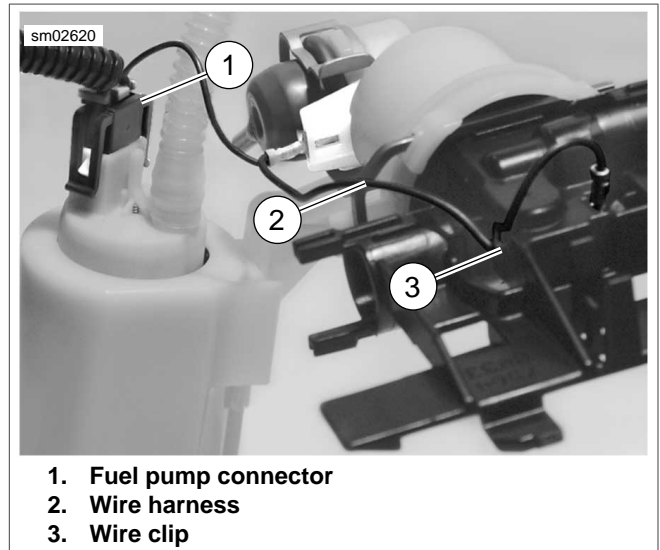

Figure 4-47. Fuel Pump Connector
3. See Figure 4-47. Disconnect fuel pump connector (1).
11. See Figure 4-47. Install fuel pump connector (1). Inspect fuel pump wiring, (2) replace if damaged.